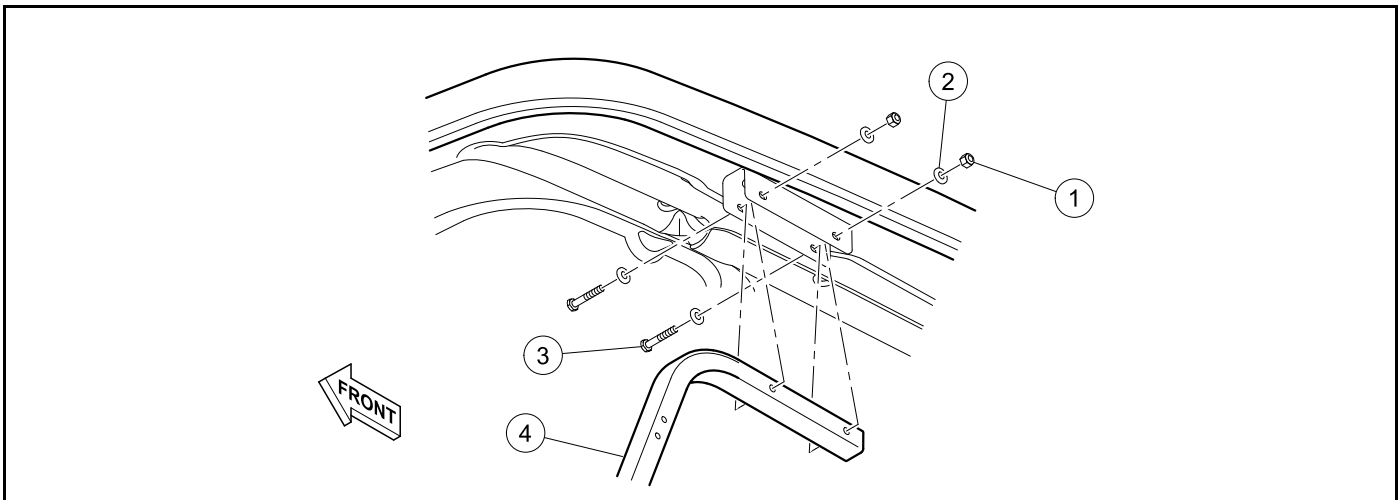

Figure 4-34 Canopy Removal - Front Canopy Strut
1. Remove the nuts (1), washers (2), and bolts (3) from the front canopy strut (4) (**Figure 4-34**).